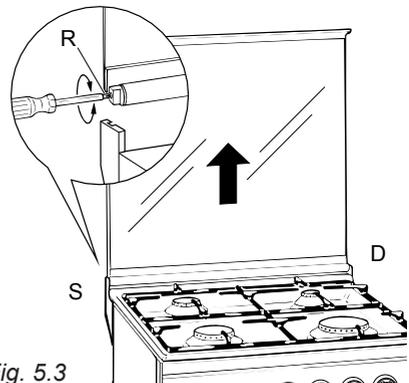

Fig. 5.3
- The right housing must receive the hinge marked “D” while the left housing must receive the hinge marked “S” (Fig. 5.3)
If necessary, register the calibration of the hinge springs using the screws “R” (fig. 5.3).